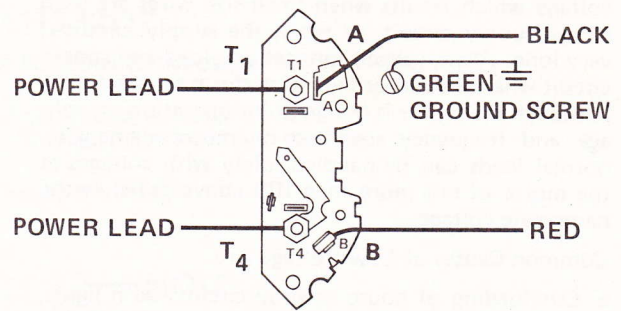

Figure 4
EXTRA SAFETY PRECAUTIONS: Motor must be properly grounded. (See figure 4). Do not operate motor with key and key clip loose on shaft. Keep hands and clothing away from moving parts.
4. A 48-inch, 3-conductor (center ground wire) cord and plug assembly is attached at the factory, with the two power leads connected to the quick connect tabs adjacent to terminal posts "T1" and "T4". (See figure 4.) In event this cord is removed and the motor wired for a permanent installation, connect one power lead to terminal "T1" (or quick connect tab adjacent to it). Connect the other power lead to terminal "T4" (or quick connect tab adjacent to it). Connect the ground wire to the green ground screw located just under the terminal cover.
5. The Black and Red motor leads are connected to quick connect tabs "A" and "B" on terminal board. (See figure 4.)